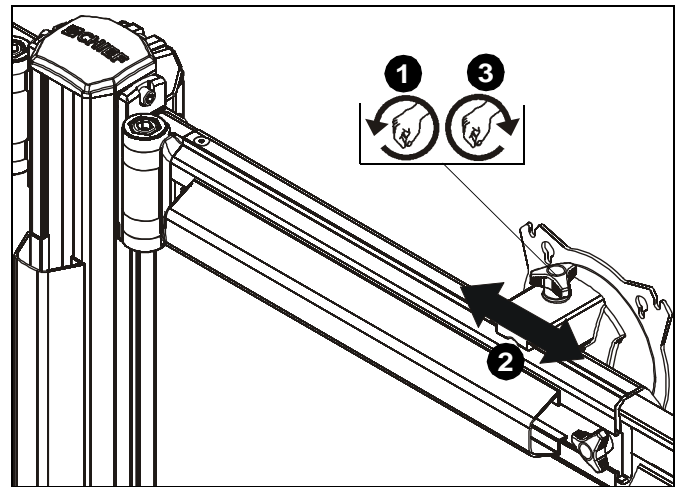

**Figure 22**
**NOTE:** Be sure the faceplate adjustment knob is on top when reinstalling the faceplate assembly. (See Figure 22)
**NOTE:** Faceplate assemblies may be reattached on the fixed part of the arm. (See Figure 22)
4. Place faceplate assembly on array arm at desired mounting position. (See Figure 22)
5. Slide removable plate back into slot at bottom of faceplate assembly. (See Figure 22)
6. Reinstall hex head bolt removed in Step 1 to secure faceplate assembly to array arm. (See Figure 22)